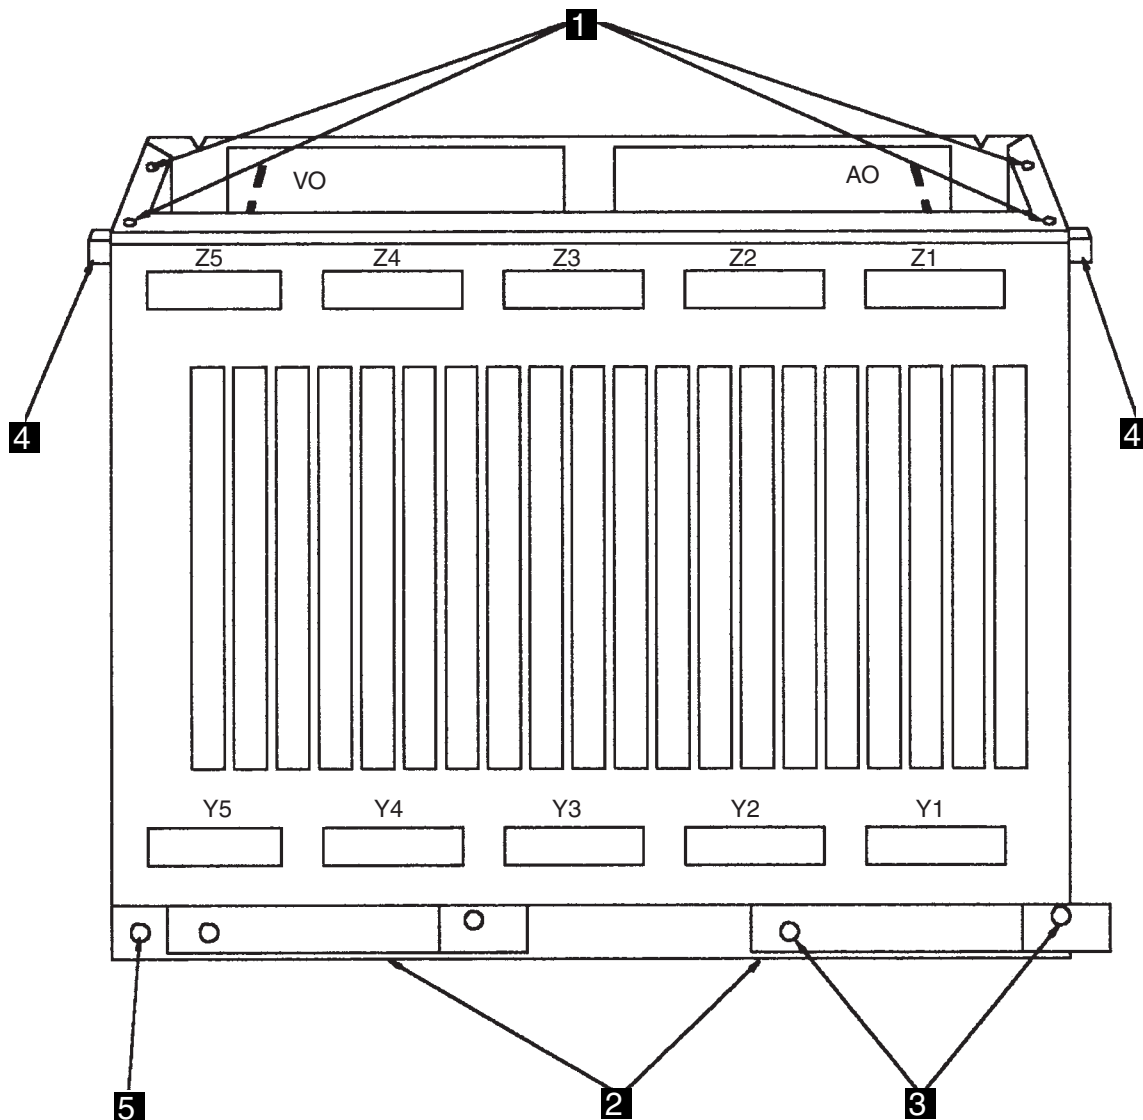
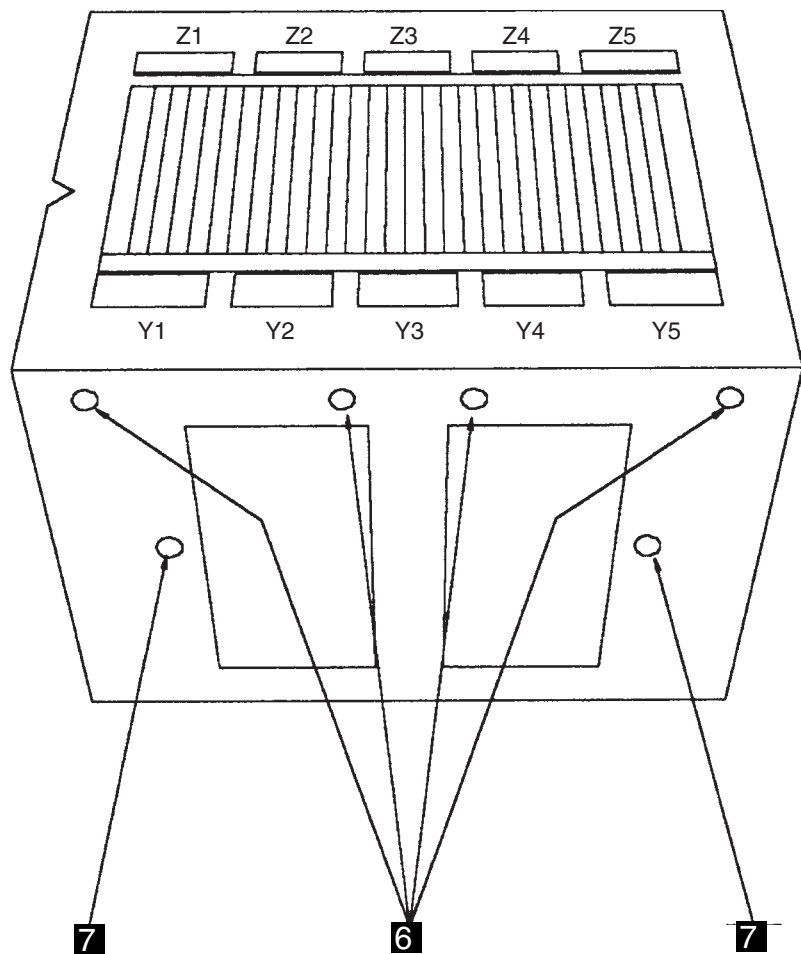

Figure 4-150. Rear View of the SAC Gate Assembly
Figure 4-151. Front View of the SAC Gate Assembly
5. Refer to Figure 4-150 on page 4-164. Working from the rear of frame 01, do the following:
6. Refer to Figure 4-151 on page 4-165. Working from the front of frame 01, do the following:
8. Refer to Figure 4-151 on page 4-165. Remove the four screws **6** holding the SAC gate assembly.
9. Refer to Figure 4-150 on page 4-164. Working from the rear of frame 01, do the following:
- c. Referring to Figure 4-151 on page 4-165 and working through the gate assembly, remove the last two screws **7** still holding the gate assembly to the frame.
Refer to Figure 4-150 on page 4-164 and Figure 4-151 on page 4-165.